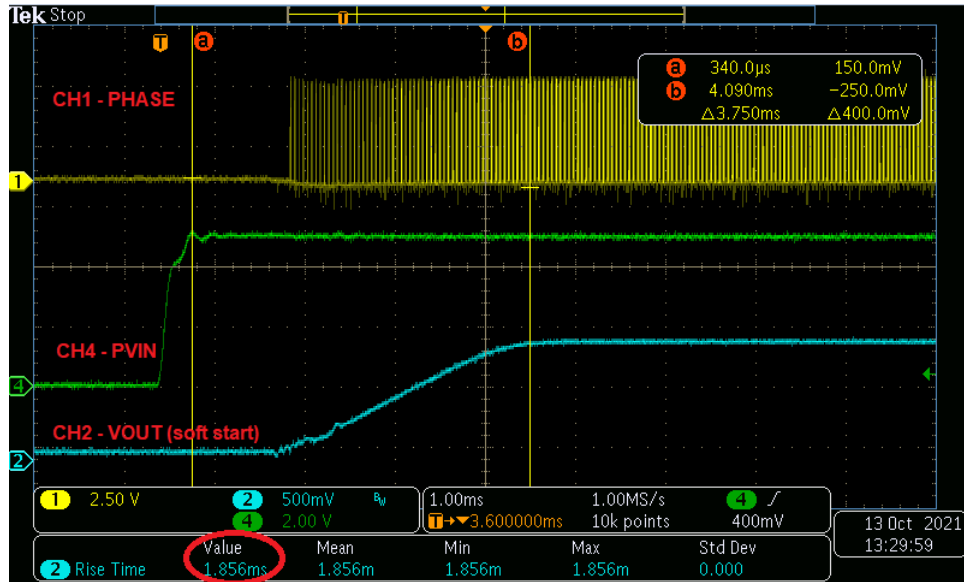

Figure 4-3. Output Soft Start Voltage, VIN = 5 V, VOUT = 1 V, IOUT = 18 A
Display CH1 (PH) and CH2 (VOUT) [DC coupled, 500 mV/div] on oscilloscope to monitor the switching phase and the soft start profile of the output voltage as shown in Figure 4-3.